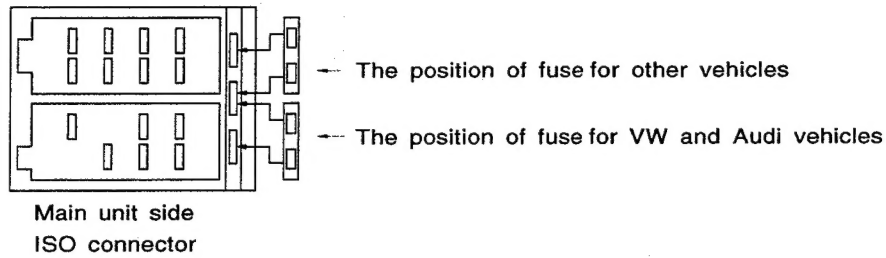

Figure 1
1. For VW and Audi vehicles, change the position of fuse installation as shown on the diagram. (Figure 1)